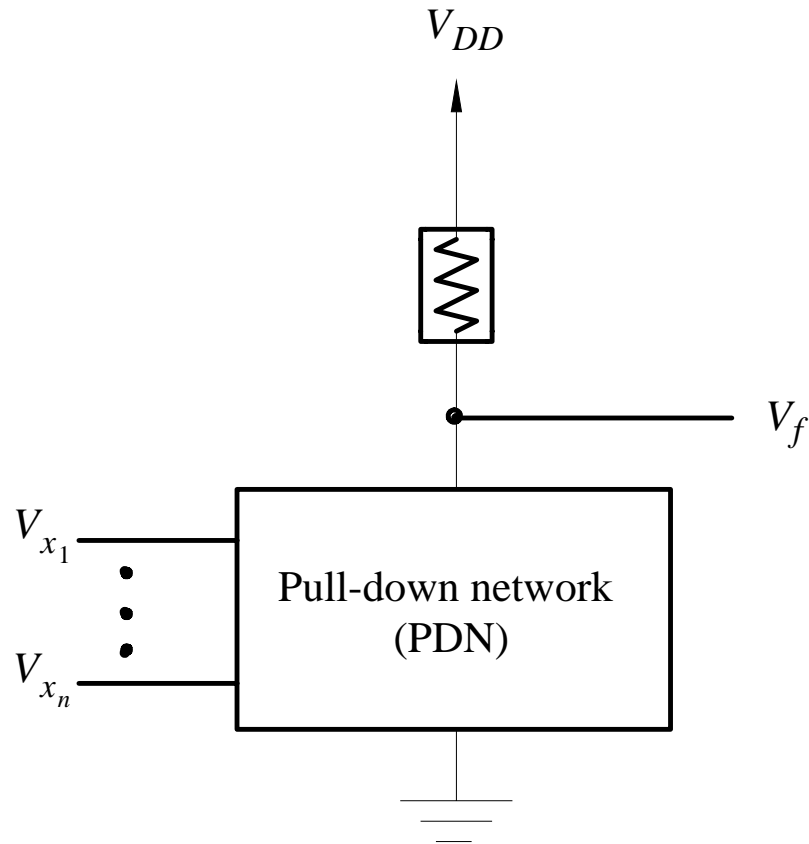

Figure 3.10. Structure of an NMOS circuit.
- In NMOS circuits, the logic functions realized by NMOS transistors combined with a pull-up resistor. We call part of the circuit involving NMOS transistors as the "pull-down network (PDN)". All NMOS based circuits structures, as shown in Fig 3.5~Fig. 3.8 can be characterized by a block diagram as shown in Fig. 3.10.